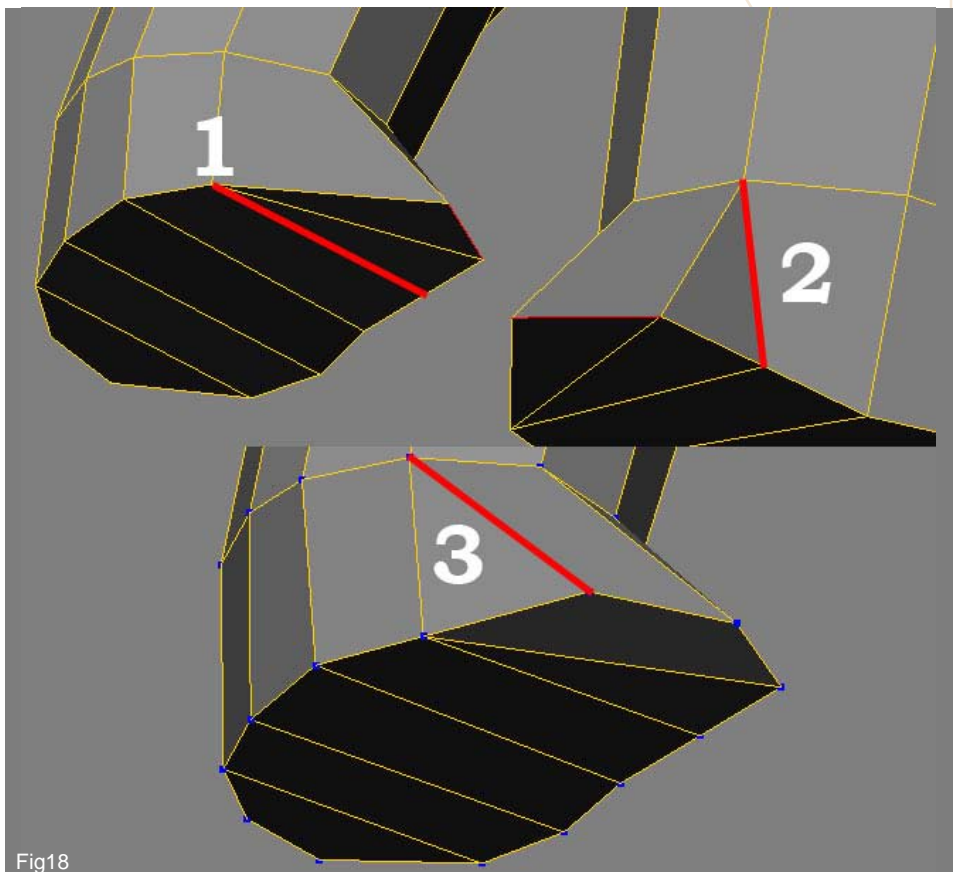

Fig18
18. Now add a cut in the position marked "1" in Fig 18. Continue the loop and add another cut in the palm side of the hand, marked with "2". Finally, add a third cut in, as in position "3" in Fig 18. This will help to obtain a better curvature for the hand.